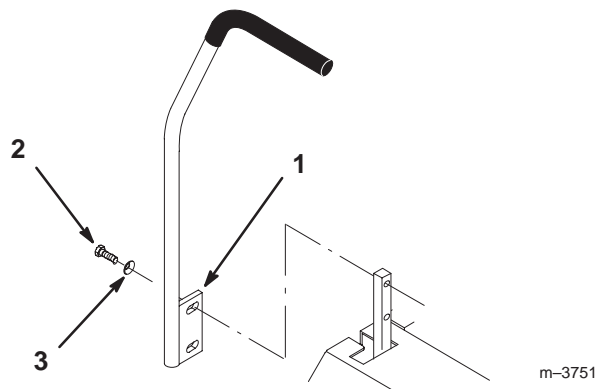

Figure 3
1. Remove the (4) 3/8-16 x 1" (26 mm) bolts and (4) 3/8" spring washers which attach the motion control levers to the control arm shafts for shipping (Fig. 3).
2. Place the levers (with the mounting plate toward the rear) on the outside of the control arm shaft and secure with (4) 3/8-16 x 1" (26 mm) bolts and (4) 3/8" spring washers (Fig. 3).
4. Align the front/rear position of the levers, with each other, in the neutral position. Loosen hardware and adjust by sliding/tilting the lever(s) forward or backward until properly aligned (Fig. 3).